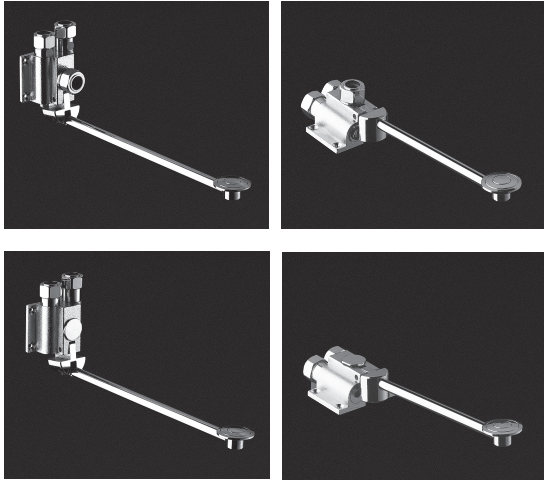

fig. 1
- **Mixer** : (fig. 1) supply with cold and hot water 60°C maxi (45°C recommended) and balance pressures ( $\Delta P < 1$  bar). Supply pressure : 10 bar maxi. (recommended : 0,5 - 5 bar).